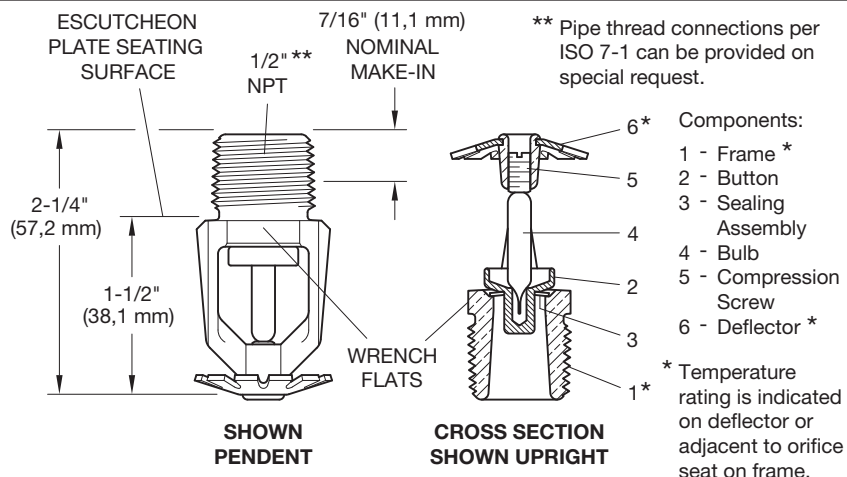

FIGURE 5
Step 2C. Tighten the sprinkler into the sprinkler fitting using only the W-Type 6 Sprinkler Wrench (Ref. Figure 16). With reference to Figures 5, 6, 7, and 8 the W-Type 6 Sprinkler Wrench is to be applied to the wrench flats.